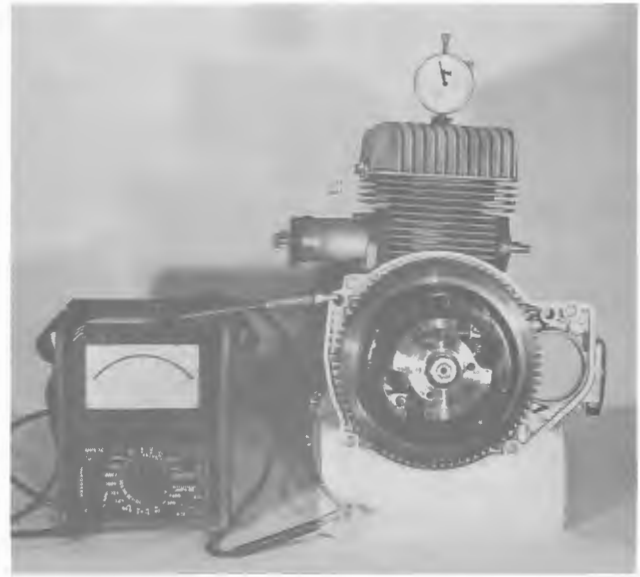

FIGURE 5-13 SETTING ENGINE TIMING
5.4.4 Engine Ignition Timing (See Figure 5-13)
- e. Refer to figure 5-13. Adjust No. 1 cylinder breaker point gap to 0.014 inch. This point set has red ignition wiring. Connect one lead of a timing light to the red wire at ignition coupler and the other lead to ground.